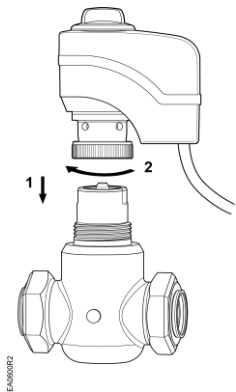

Figure 6.
- Place the actuator on the valve and firmly hand-tighten the coupling. See Figure 6.